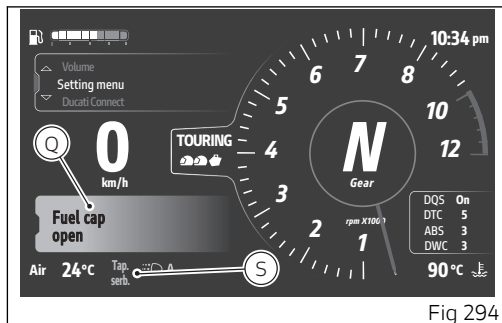
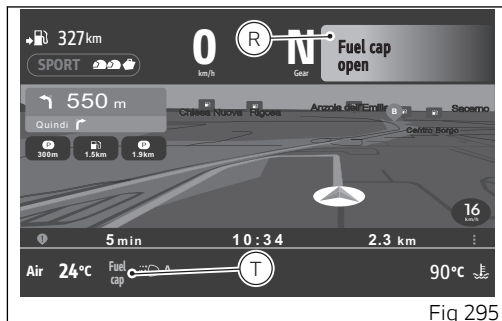

Fig 294
Fig 295
- when activated, it is displayed for the first 5 seconds in the large format (Q main screen, Fig 294) (R Ducati Connect screen Fig 295);
- then it is displayed in the small format (S main screen, Fig 294) (T Ducati Connect screen Fig 295).